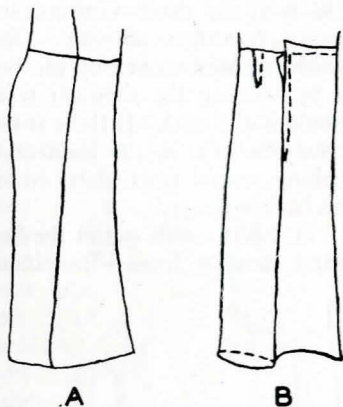

FIG. 12.—Skirt swings to front and side seams do not hang well.
13. Skirt sticks out in front at hem line and side seam slopes to the back.—A large abdomen and sway back cause this. Open the side seam and raise the front above back for ease in length and width. Let out the side seams of the front and the dart or gore in the front, if there is either one. Take a deeper dart and seam on the back gore (Fig. 12).